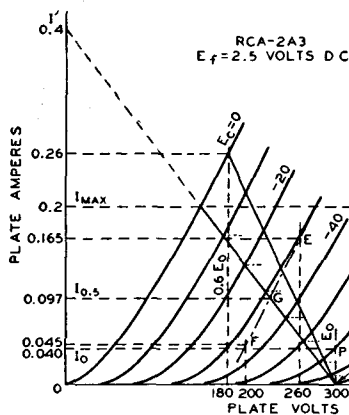
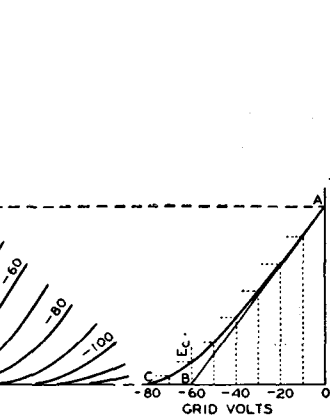

Fig. 24
Fig. 25
In class AB1 push-pull amplifier service using triodes, the operating conditions may be determined graphically by means of the plate family if  $E_c$ , the desired operating plate voltage, is given. In this service, the dynamic load line does not pass through the operating point P as in the case of the single-tube amplifier, but through the point D in Fig. 24. Its position is not affected by the operating grid bias provided the
In general, for any load line through point D, Fig. 24, the plate-to-plate load
**Example:** Fig. 24 illustrates the application of this method to a pair of 2A3's operated at  $E_o=300$  volts. Each tube has a plate-dissipation rating of 15 watts. The method is to erect a vertical line at  $0.6E_o$ , or at 180 volts, which intersects the  $E_c=0$  curve at the point  $I_{max}=0.26$  ampere. Using the simplified formulas, we obtain
The operating bias and the zero-signal plate current may now be found by use of a curve which is derived from the plate family and the load line. Fig. 25 is a curve of instantaneous values of plate current and dc grid-bias voltages taken from Fig. 24. Values of grid bias are read from each of the grid-bias curves of Fig. 24 along the load line and are transferred to Fig. 25 to produce the curved line from A to C. A tangent to this curve, starting at A, is drawn to intersect the grid-voltage abscissa. The point of intersection, B, is the operating grid bias for fixed-bias operation. In the example, the bias is -60 volts. Refer back to the plate family at the operating conditions of plate volts=300 and grid bias= -60 volts; the zero-signal plate current per tube is seen to be 0.04 ampere.
As in the case of the push-pull class A amplifier, the second-harmonic distortion in a class AB1 amplifier using triodes is very small and is largely canceled by virtue of the push-pull connection. Third-harmonic distortion, however, which may be larger than permissible, can be found by means of composite characteristic curves. A complete family of curves can be plotted, but for the present purpose only the one corresponding to a grid bias of one-half the peak grid-voltage swing is needed. In the example, the peak grid voltage per tube is 60 volts, and the half value is 30 volts. The composite curve, since it is nearly a straight line, can be constructed with only two points (see Fig. 24). These two points are obtained from deviations above and below the operating grid and plate voltages.
through these points is the composite curve for a bias of -30 volts, shown as a long-short dash line in Fig. 24. At the intersection of the composite curve and the load line, G, the instantaneous composite plate current at the point of one-half the peak signal swing is determined. This current value, designated  $I_{0.5}$  and the peak plate current,  $I_{max}$ , are used in the following formula to find peak value of the third-harmonic component of the plate current.